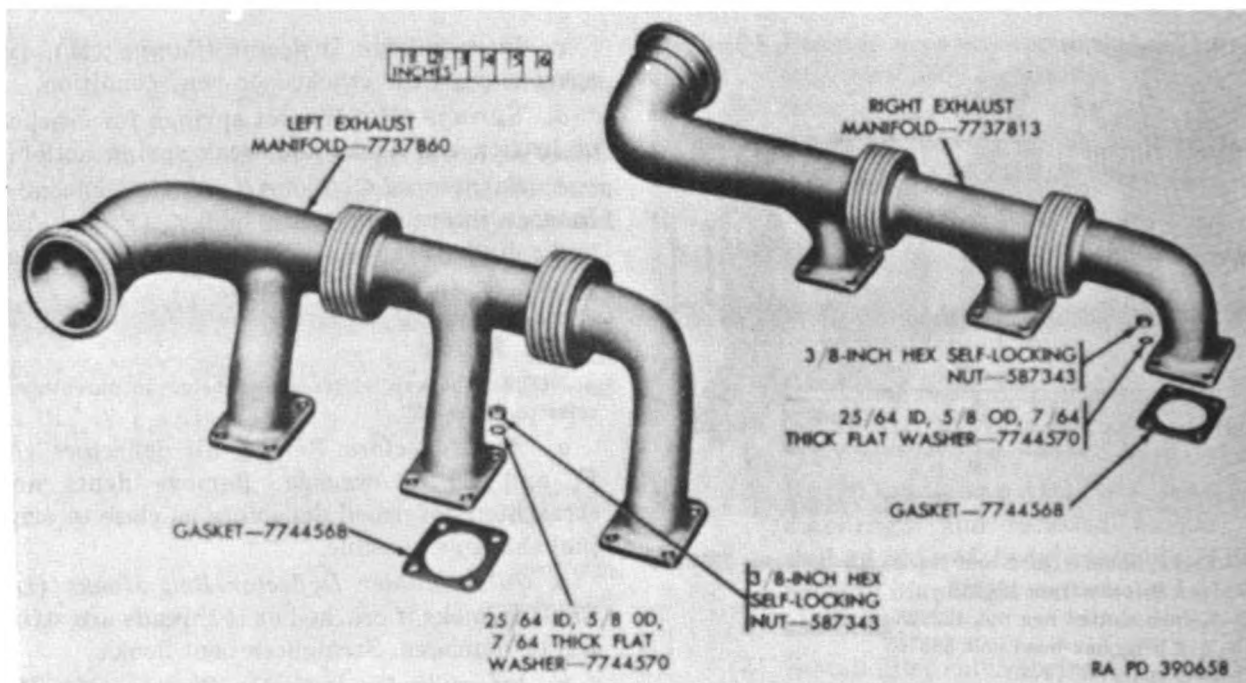

Figure 154. Exhaust manifolds (model AOSI-895-5 engines only)—exploded view.
The left and right exhaust manifolds (figs 154 and 155) are welded and cannot be disassembled except for the removal of the hotspot outlet covers (D, fig. 155) from the model AOSI-895-5M engine exhaust manifolds. To remove the covers, cut locking wire and remove three hex-head bolts (E, fig. 155) and remove the covers. Remove and discard gaskets (C, fig. 155).
a. *Exhaust Manifolds (A and B, fig. 155, and fig. 154).*
- (1) Inspect manifolds for cracked or damaged bellows and flanges.
- (2) Inspect welded areas at joints for cracks or holes.
a. Exhaust Manifolds (A and B, fig. 155, and fig. 154).
- (1) Replace manifolds if bellows or flanges are cracked. Repair cracks by welding, if possible.
- (2) Replace manifolds if welds at joints